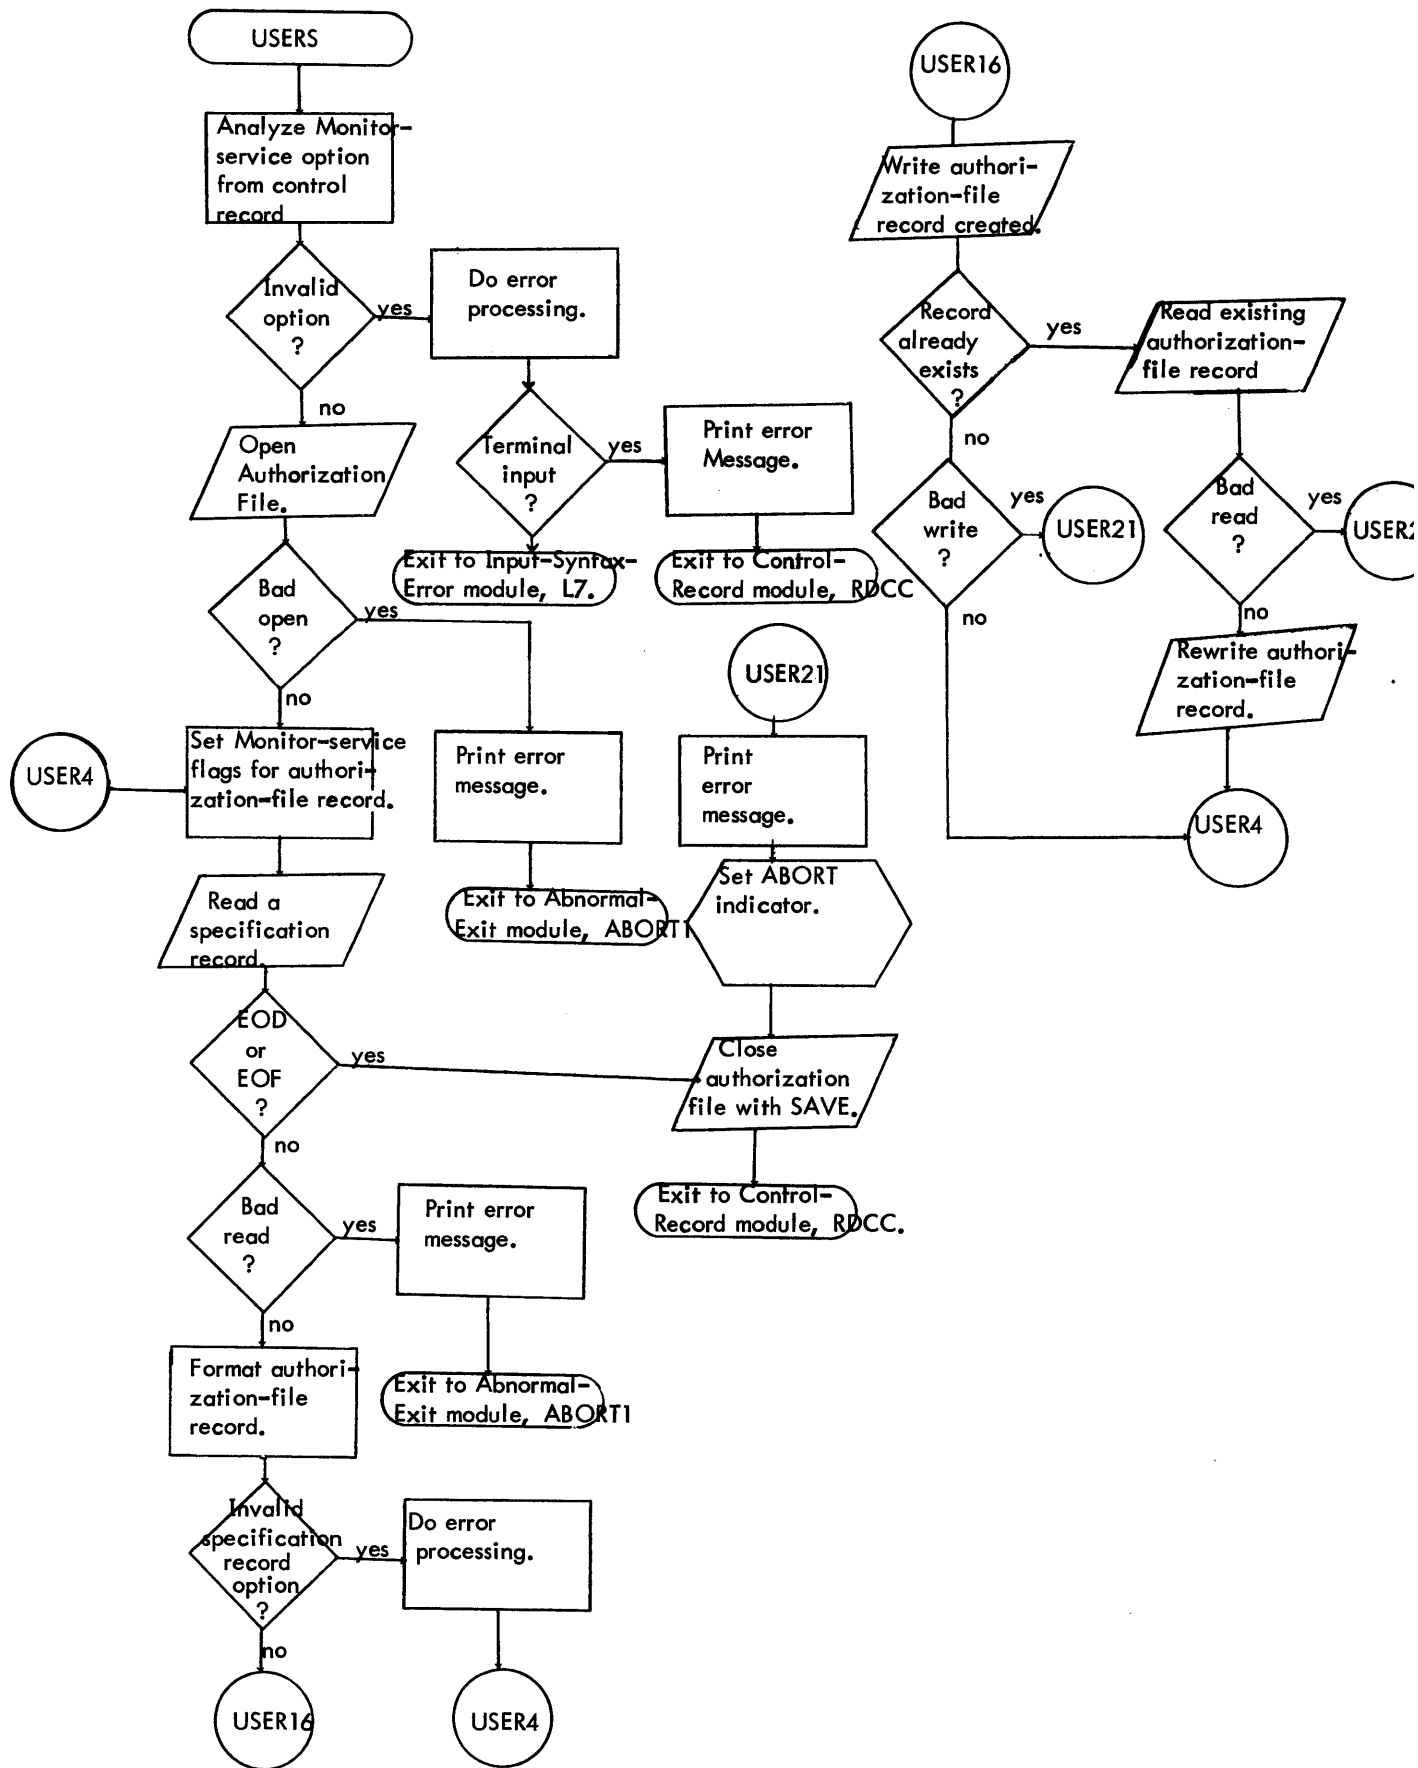

Figure 5-2. Flow Chart for USERS
- (3) The ABORT indicator is set.
- See Figure 5-2.